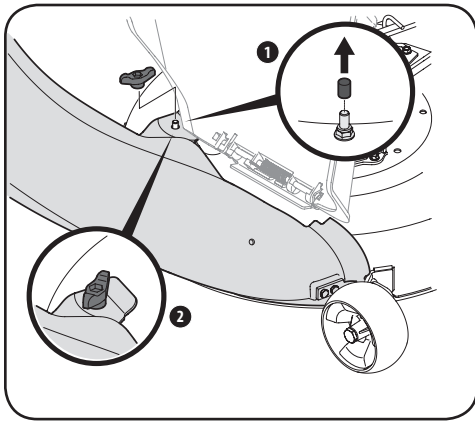

Figure 4-22
3. Secure the chute elbow to the deck using a wing knob (720-04122) from hardware pack 689-01419. See Figure 4-22.
Note: If present, remove the protective cap off of the mounting stud on the mowing deck as shown in the upper inset of Figure 4-22.